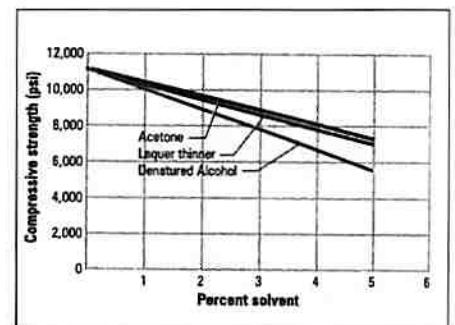

Figure 4. Compressive strength of 105/205 epoxy vs percent of solvent added.
- Adding 5% lacquer thinner to epoxy reduces the epoxy's compressive strength by 35%—a big hit in the mechanical properties of West System epoxy (Figure 4). The addition of more than 5% solvent results in an excessively flexible cured-material.